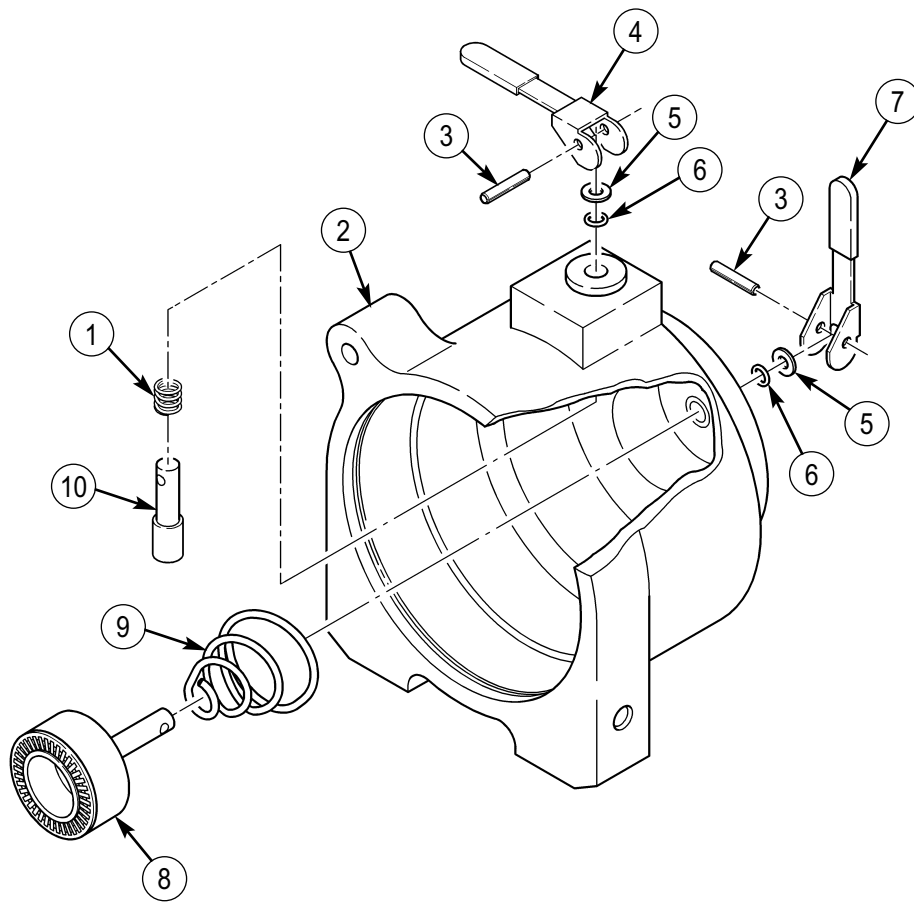

Figure 7
18. Depress driveshaft plunger (8) and remove roll pin (3), high range lever (7), lever washer (5), and O-ring (6) from driveshaft plunger (8) as shown in figure 7. Discard O-ring (6).
19. Remove driveshaft plunger (8) and driveshaft plunger spring (9) from gearbox housing (2) as shown in figure 7.
20. Depress low range lever plunger (10) and remove roll pin (3), low range lever (4), lever washer (5), and O-ring (6) from lever plunger (10) as shown in figure 7. Discard O-ring (6).
21. Remove low range lever plunger (10) and low range lever spring (1) from gearbox housing (2) as shown in figure 7.